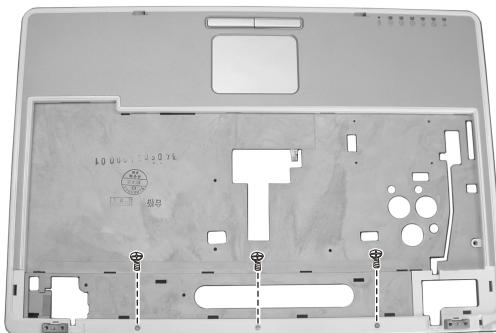

Figure 2-31 Remove the three screws
2. Remove the three screws fastening the top cover. (Figure 2-31)